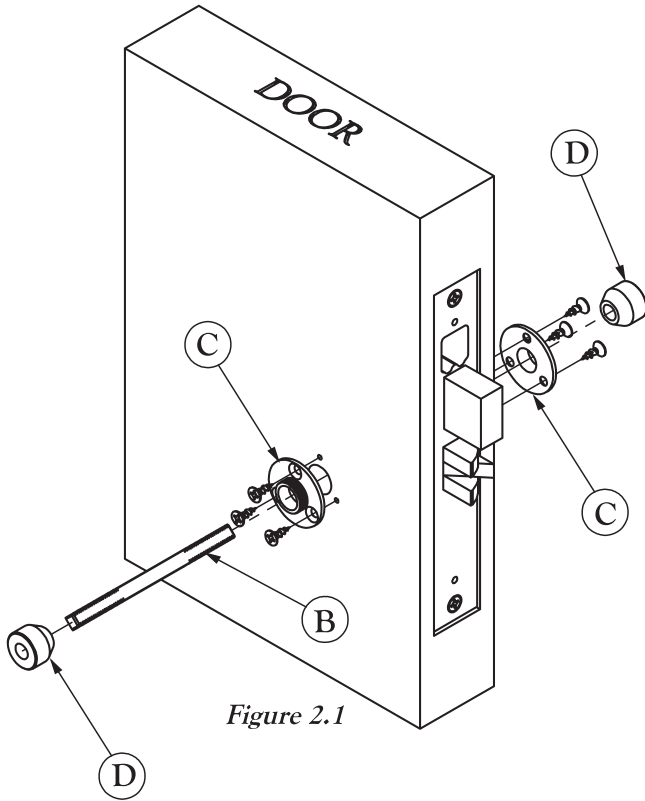

Figure 2.1
**Step 2:** Insert the Spindle (B) portion of the Alignment Tool through the lockset hub. Refer to Figures 2.1 and 2.2.
**Step 3:** Roses with concealed fasteners are typically installed with a Subrose (C). Escutcheons or Roses with exposed fasteners do not require a Subrose. Slide the Subrose or surface mounted trim over each end of the Alignment Spindle.
**Step 4:** Attach the Alignment Nuts (D). Thread one nut onto each end of the spindle with the tapered side pointing towards the door.